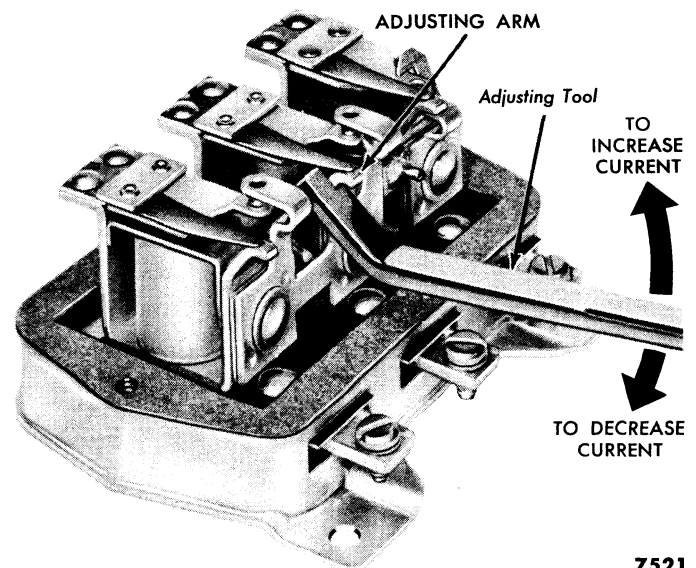

Fig. 31—Current Limit Adjustment
(3) **ADJUST CURRENT LIMIT.** If the current limit on the standard regulator is less than that specified, increase the spring tension by bending the adjusting arm upward (fig. 31). To decrease the current limit, bend the adjusting arm downward. Install the cover.